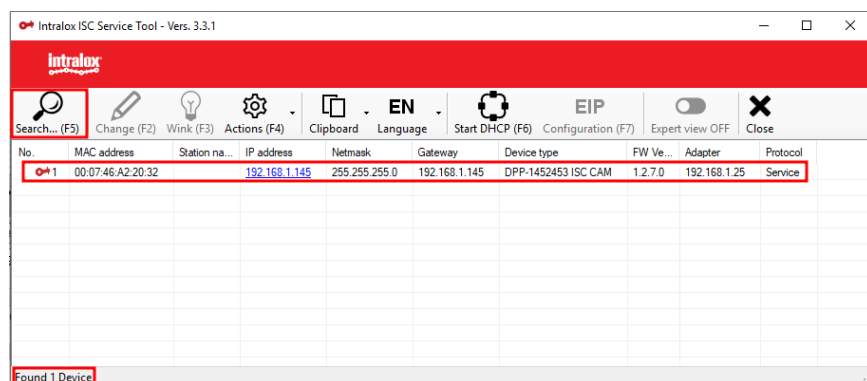

Figure 10: Intralox ISC Service Tool Search
18. Using the “Intralox ISC Service Tool” verify that computer is connected to ISC CAM by clicking “Search” button, Figure 10.
19. If the search is successful then a device will populate in the list with IP Address, Device type, etc., Figure 10.